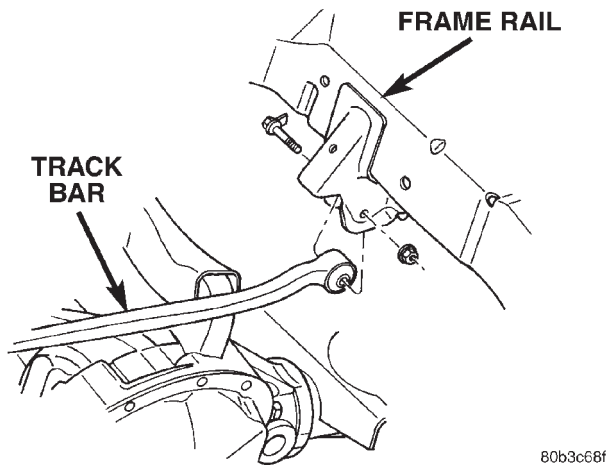

Fig. 14 Track Bar Frame Rail Bracket
- (1) Raise and support the vehicle.
- (2) Remove the nut and bolt from the frame rail bracket (Fig. 14).